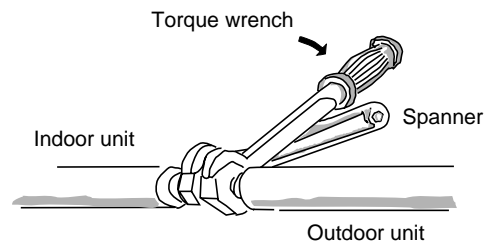

Fig. 33
- a) Tightly connect the indoor side refrigerant tubing extended from the wall with the outdoor side tubing. (Fig. 33)